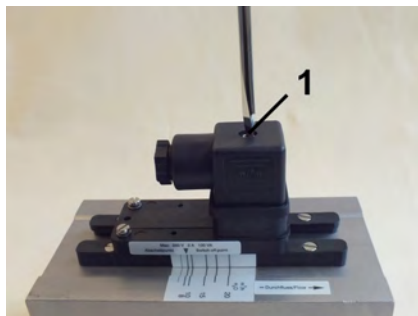

Fig. 45: Loosen female socket
1.  Loosen the fixing screw of the female socket (Fig. 45/1) with a flat-bladed screwdriver